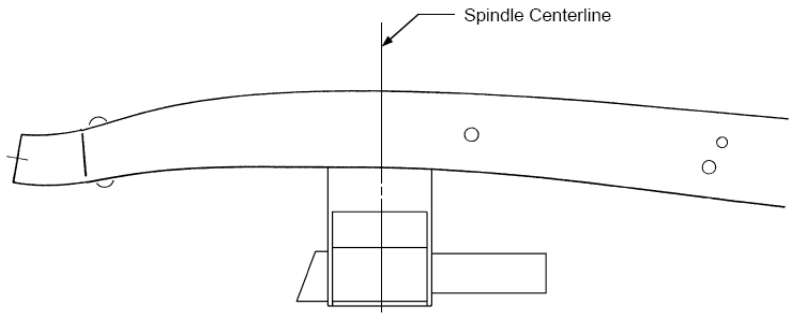

Figure 3- Crossmember Install
6. Now it is time to start fitting and installing the new crossmember. Slip it into the frame, center it on the scribed centerline (**Figure 3**). If it does not fit, grind the sides of the crossmember until you can get the crossmember in place, as shown. Make sure the crossmember is seated fully on the underside of the frame. Tack weld in place, check location, then weld in place, welding all around both ends, top, sides, and bottom.